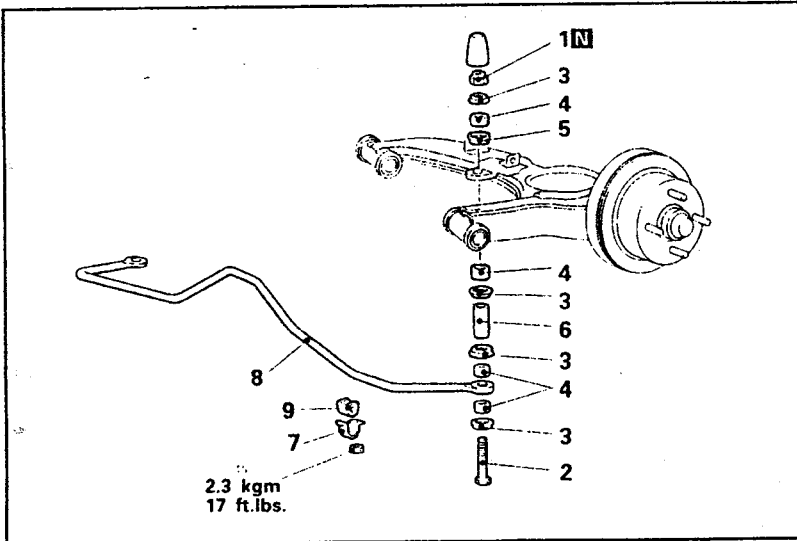

Fig. 11.8 — The attachment of the rear stabiliser bar.
Fig. 11.8 shows the attachment of the stabiliser bar to the bottom of the trailing arm. Removal is straight-forward, but there are a few points which should be noted during installation:
- The nut (1) in Fig. 11.8 is self-locking und must be replaced. In order to compress the rubber bushes above and below the stabiliser bar it is important to tighten the nut correctly. With all parts fitted in accordance with the illustration, tighten the nut until the end of the connecting bolt protrudes by 25 - 27 mm (0.98 - 1.06 in.) as indicated by dimension "A" in Fig. 11.9. Measure from the upper metal plate to the end of the thread, using a depth gauge.